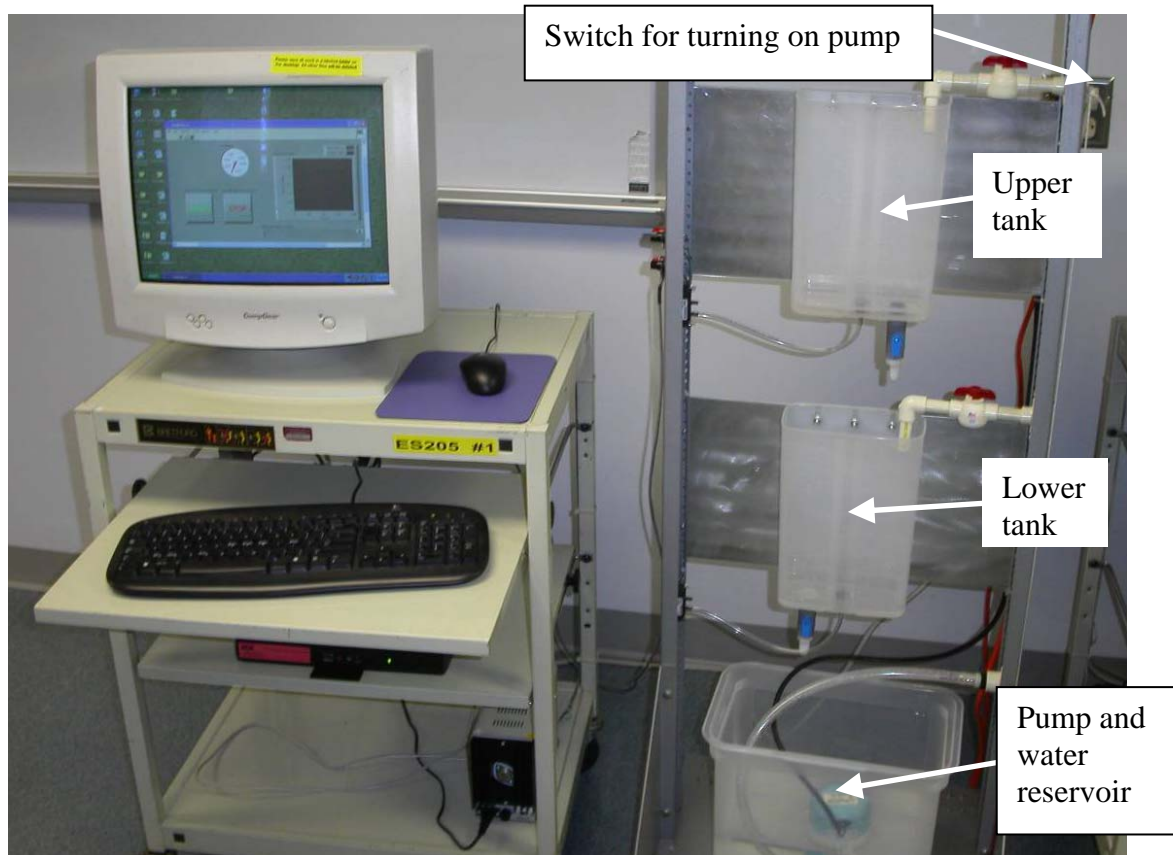

Figure 3: Tank system in C116.
A picture of the two tank system and the computer used for data acquisition is shown in Figure 3.
2. The pump can be turned on by using the switch on the side of the apparatus (see Figure 3).